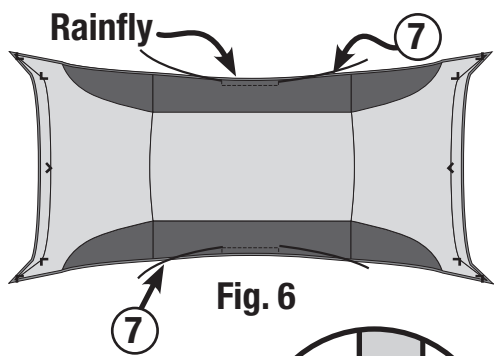

Fig. 6
- Insert awning poles into pole sleeves located on underside of rainfly. (Fig. 6)